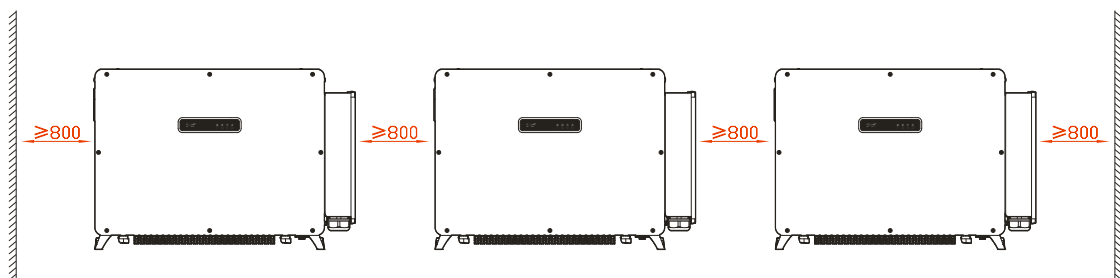

Figure3-5 Installation clearance requirements of multiple inverters (unit: mm)
- When multiple inverters are installed side by side, a certain clearance must be reserved between the inverters, as shown in Figure3-5.